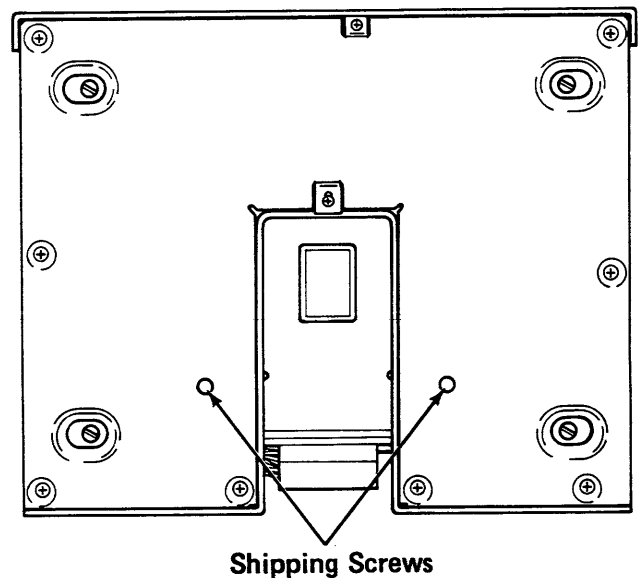

Figure 2-3A
1. Remove both red Shipping Screws from the bottom of the machine (Figure 2-3A).